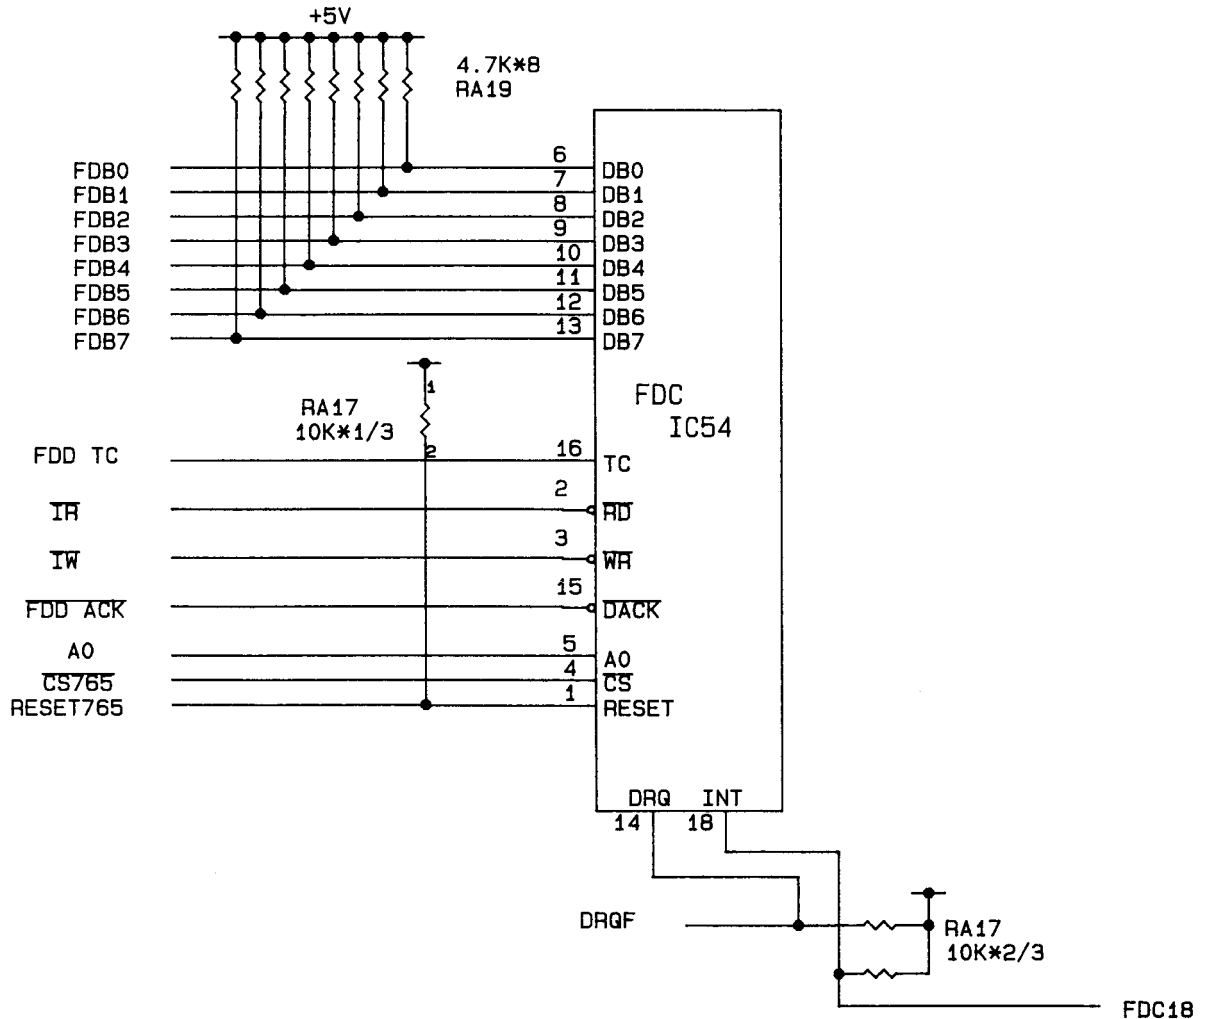

Figure 4-24. CPU Interface for FDC
Figure 4-24 shows the CPU interface for FDC. The clock for FDC is supplied from VFO (4MHz clock). The reset signal (RESET765) is fed to the reset terminal. The terminal A0 selects the contents to be sent to the data bus. When it is set, the data register contents are sent, when it is reset, the status register are sent. "0" active signals IR (IW) input allows the transfer of data from (to) the FDC to (from) the data bus. The FDC is selected when "CS765" is low, enabling IR, IW and A0.